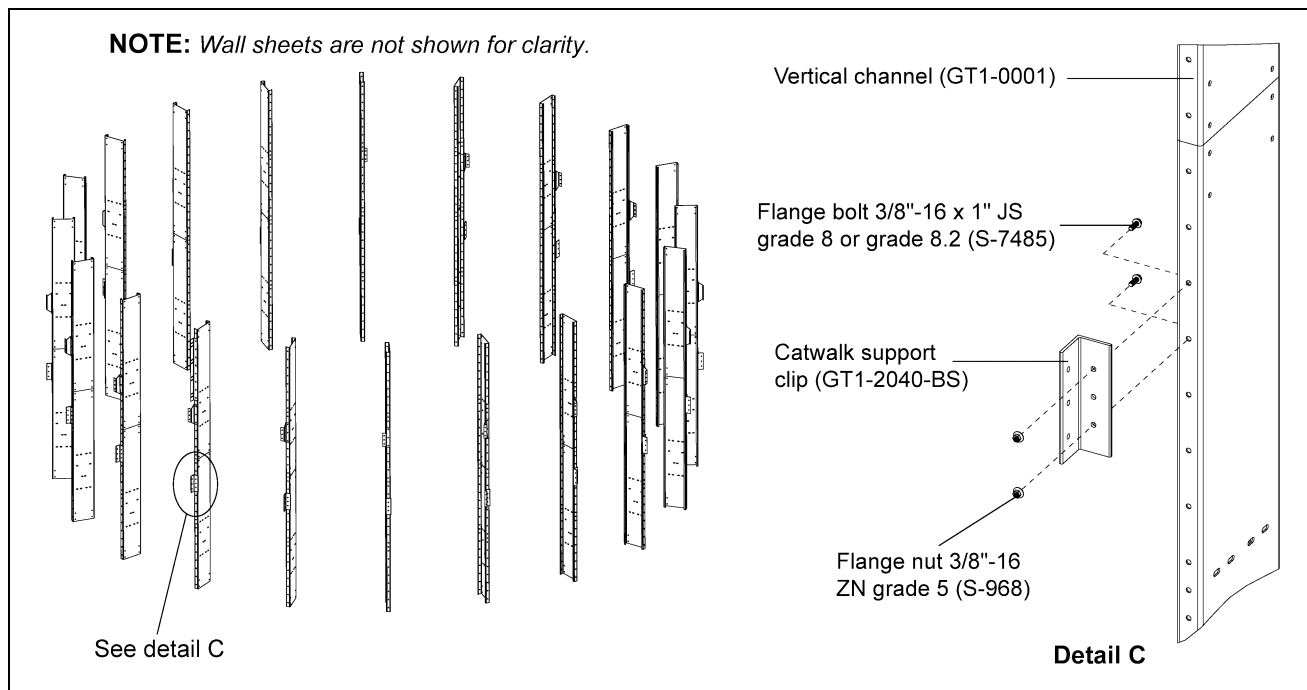

Figure 4E
1. Install catwalk support clips (GT1-2040-BS) to all vertical channels (GT1-0001). Support clip can be installed on each vertical channel as the wall sheets are installed using 3/8"-16 x 1" JS grade 8 or grade 8.2 bolts (S-7485) and 3/8"-16 ZN grade 5 nuts (S-968). (See Figure 4E.)